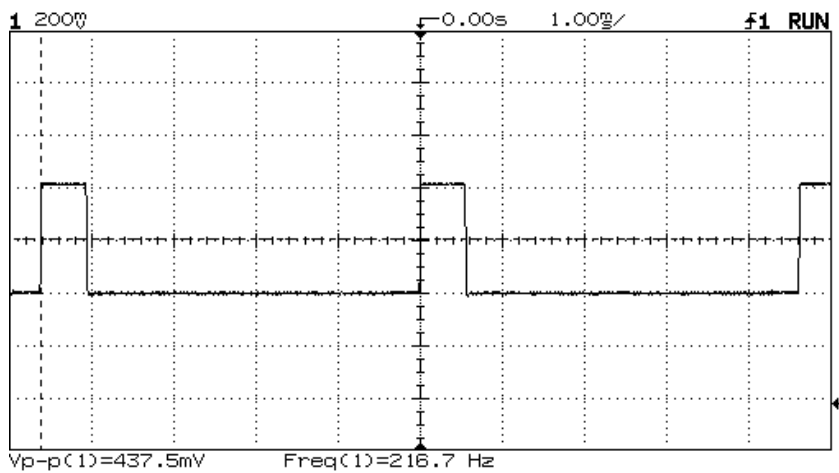

Fig. 4.14 V\_ERROR PCN @ Pwr Lvl 7Pg.1-16I
12. **V\_ERROR** ( Feed back loop control for P.A. regulation). See figure 4.14 / 4.15